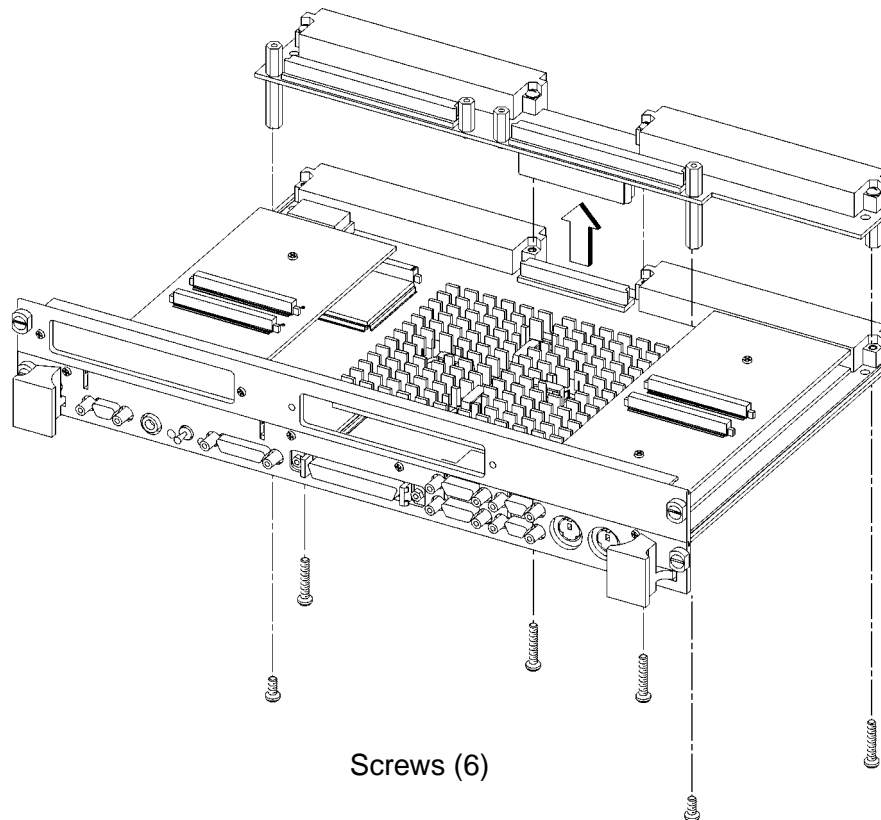

Figure 2
- 5 Remove GSC Expansion Adapter (or HCRX graphics adapter) from the board computer, if installed, as shown in Figure 2. Be sure to remove ALL standoffs with the adapter.